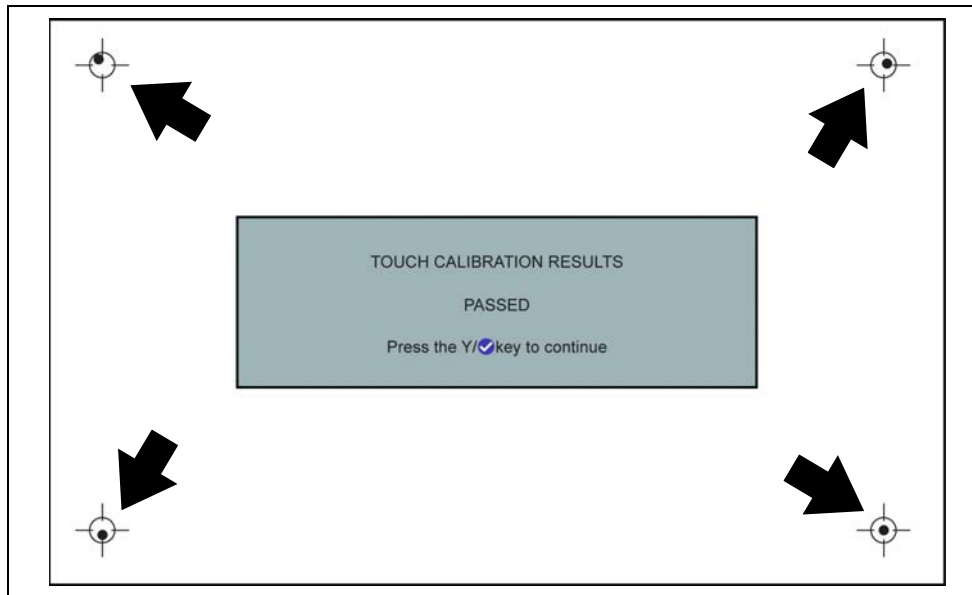

Figure 12-8 Touch screen calibration - Passed
- If the calibration is successful, the “Touch Calibration Results - Passed” screen is displayed (Figure 12-8). Press the **Y** button to complete the process and return to the Display menu.
- The results screen (Figure 12-8) shows the entered calibration of each indicator. Ideal calibration would be to select each indicator exactly in the center, however selection inside the displayed circle is acceptable. If selecting the center is difficult using your finger, use a touch screen stylus (not included).